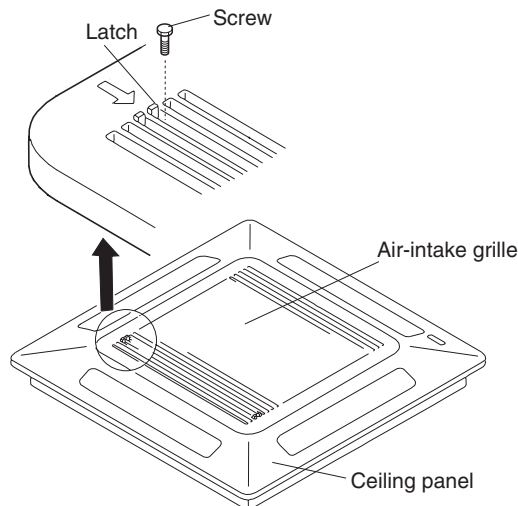

Fig. 1-24
- (1) Remove the air-intake grille and air filter from the ceiling panel. (Figs. 1-24 and 1-25)
- (a) Remove the 2 screws on the latch of the air-intake grille. (Fig. 1-24)
- (b) Press on the 2 latches of the air-intake grille with your thumbs in the direction of the arrow to open the grille. (Fig. 1-24)